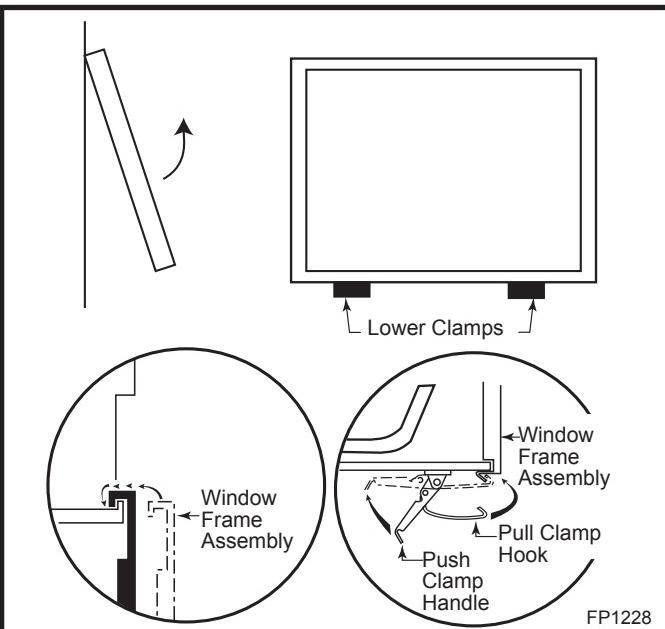

Fig. 62 Window frame assembly removal.
- Release the two clamps securing the lower edge of the window frame assembly by pulling down on the handles. (Fig. 62)